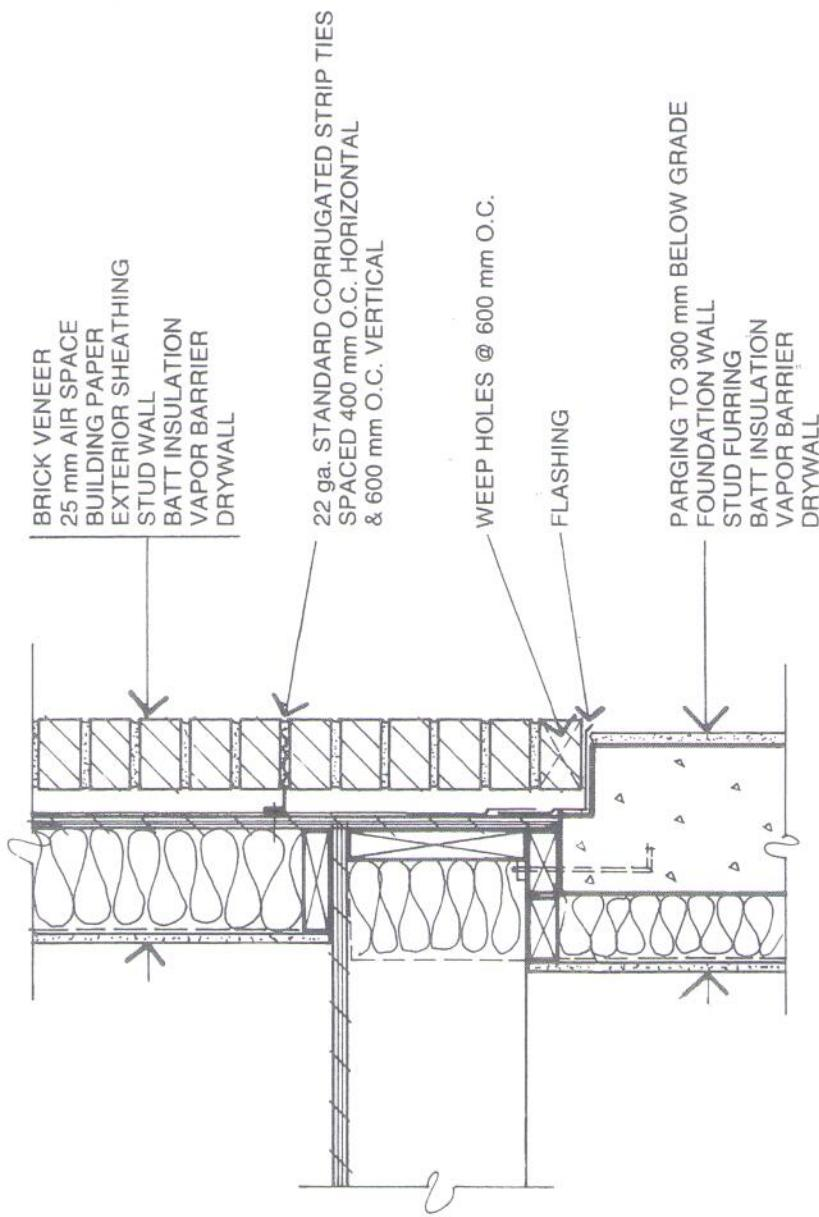

Figure 11 Typical concrete foundation wall brick support detail
- Figure 11 Typical concrete foundation wall brick support detail